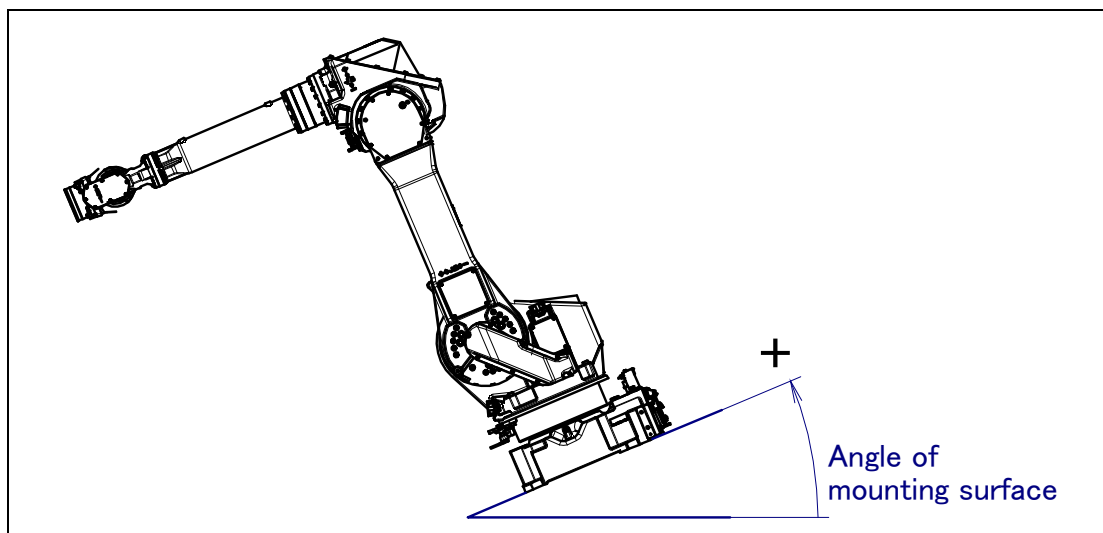

Fig.1.2.2 Mounting angle
- 6 Input the mount angle referring to Fig. 1.2.2.